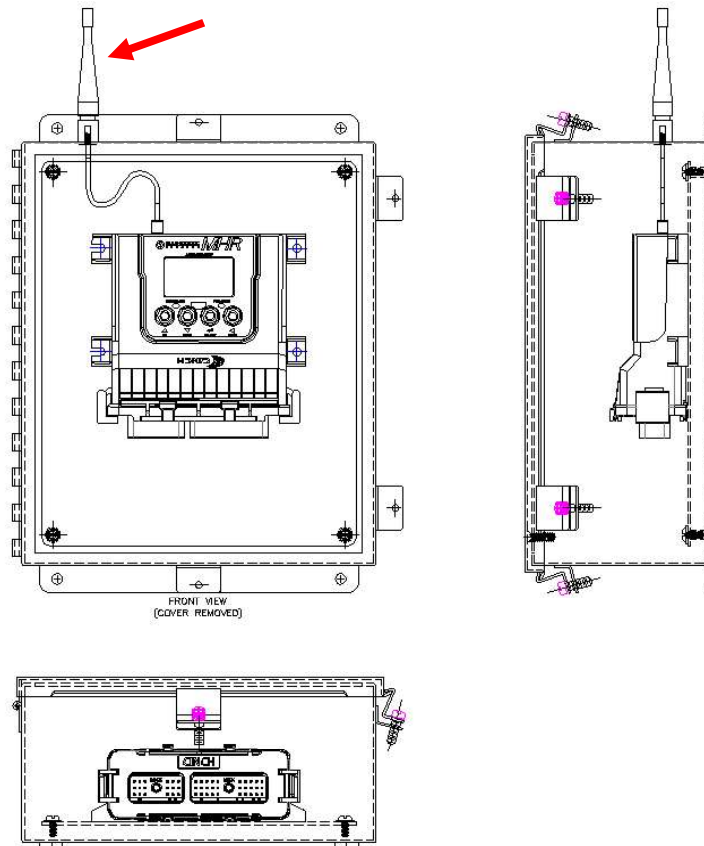

Figure 01: Remote Antenna (marked in red)
5. If obstructions can't be cleared, or unit must be mounted inside a metal enclosure, the remote antenna should be used (see Figure 01).